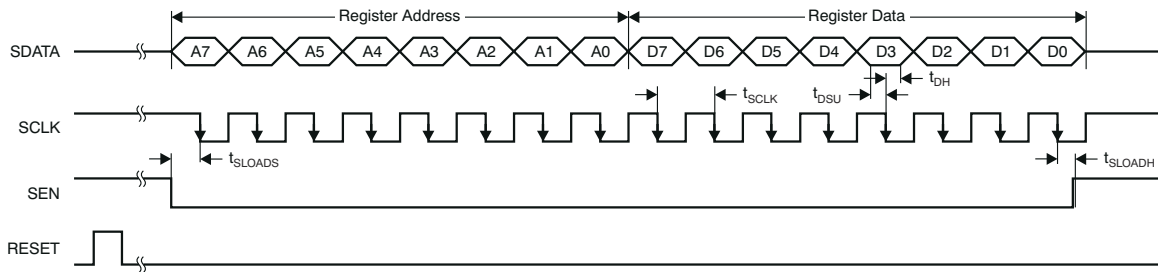

Figure 7-9. Serial Interface Timing
1. Either through hardware reset by applying a high pulse on the RESET terminal (of width greater than 10ns), as shown in Figure 7-9; or